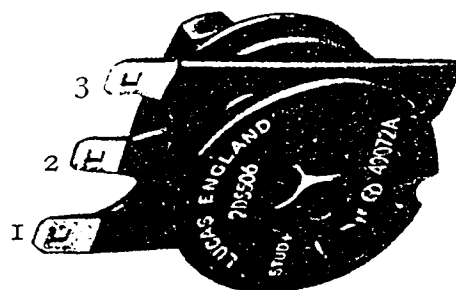
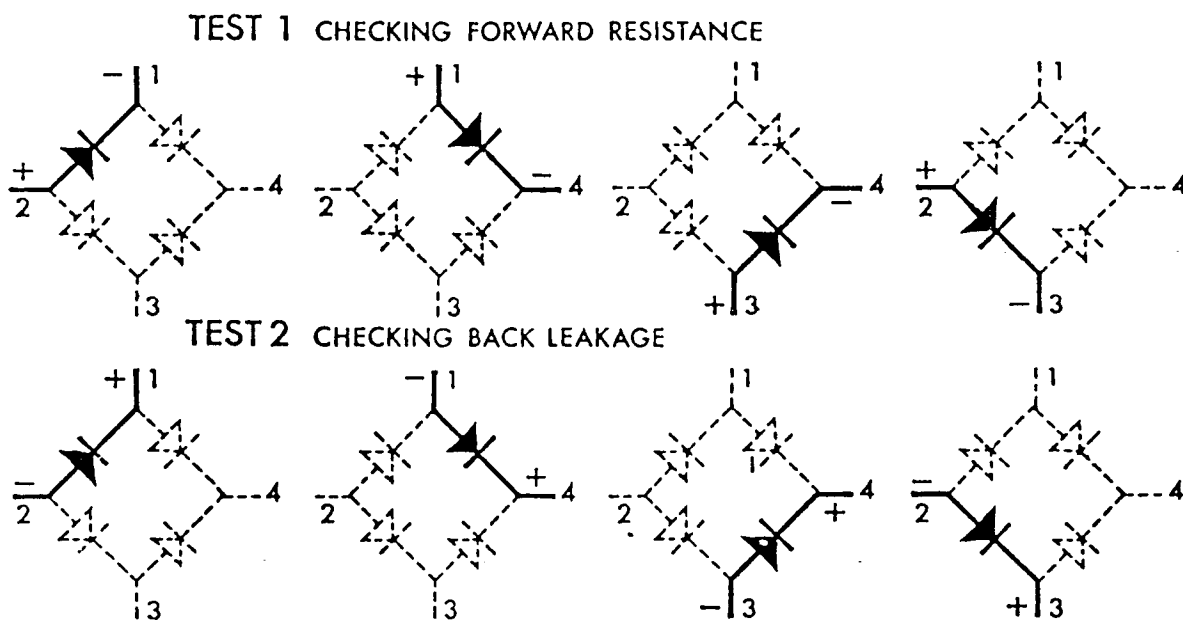

FIG. G.6. Rectifier (showing terminal connections for bench tests 1 and 2).
FIG. G.8. Rectifier test sequence for checking forward resistance and back leakage.
In Fig. G.8, the rectifier terminal markings (1), (2) and (3) are as shown physically in Figs. G.6 and G.7, while terminal (4) represents the rectifier centre bolt. (1) and (3) are the A.C. input